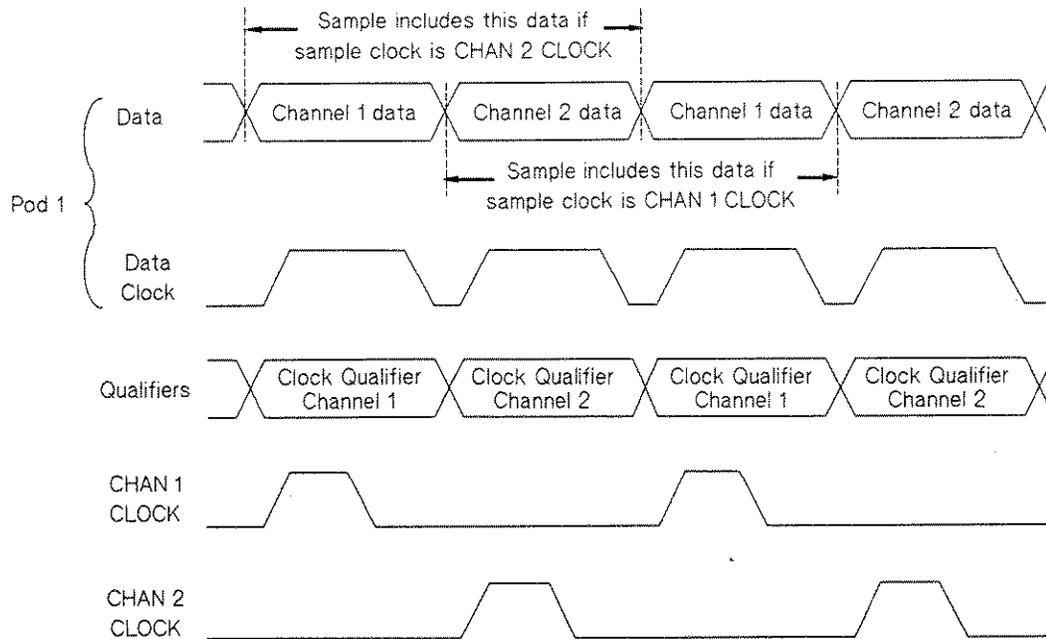

Figure 13-21. Selecting Channel Clocks for Sample Clock
- When moving two channels of data on Pod 1 (using qualifiers), you still have two channel clocks to select from when choosing a sample clock. The choice has the effects shown in figure 13-21.
When choosing a sample clock, the main consideration should be source timing to assure that the correct sample pair is taken (see figure 13-21 on page 13-21). Since the digital source data is updated with every occurrence of the sample clock, the clock edge must occur early enough to ensure that the source data is valid when it is read by the circuit under test. See the timing diagram in figure 13-17. For measurements involving 16-bit data on an 8-bit bus, the sample clock edge must occur after both bytes of the 16-bit word have been latched into the analyzer (for both channels).